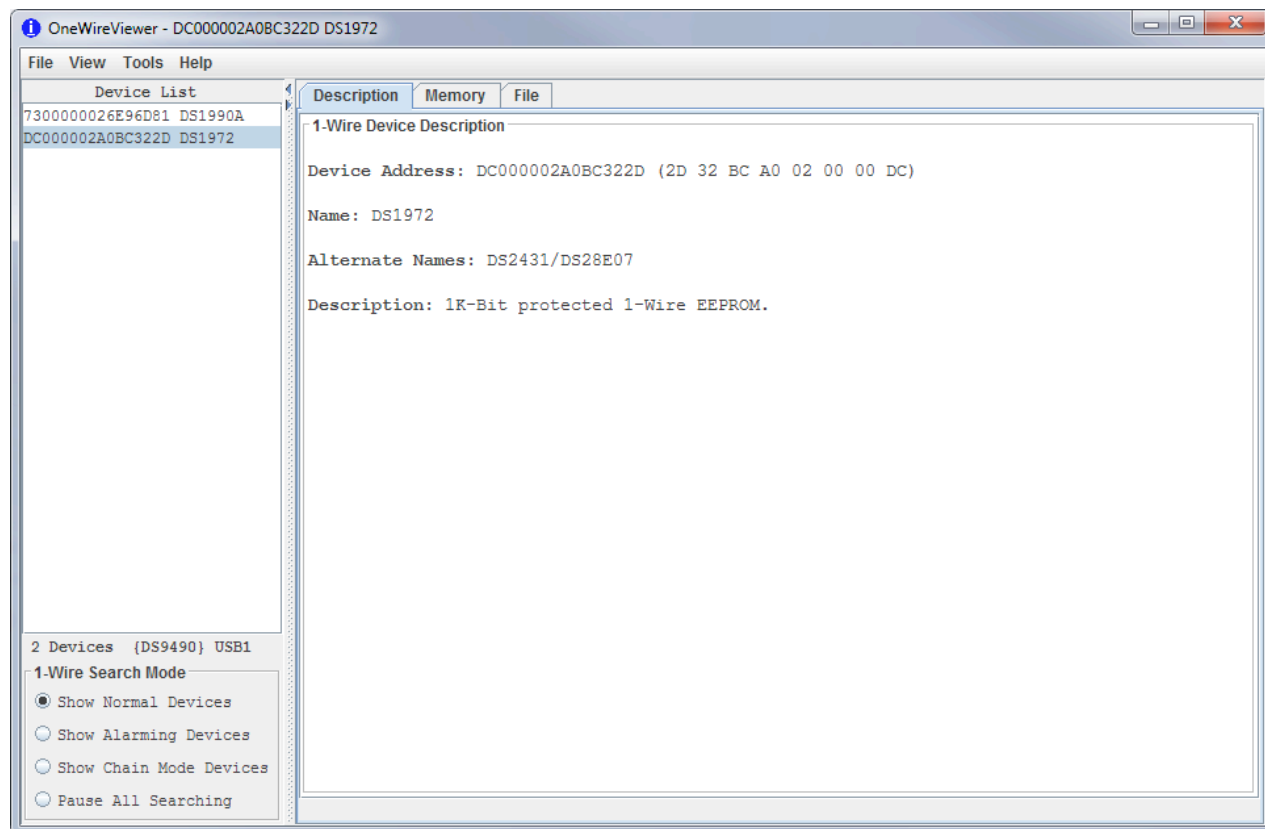

Figure 8. OneWireViewer Screen Example
- 6) When properly installed, the follow GUI should appear as shown in Figure 8.
The **OneWireViewer** presents a **Device List** window located on the left-hand side of the main screen. It displays a list of the different 1-Wire devices found connected to the DS9490R#. The 1-Wire device type inserted into the socket or header of the evaluation board should be shown in the **Device List** window, along with the 64-bit ROM ID lasered into the device. Figure 8 shows the **DS1972** in the Device List window, along with its 64-bit ROM ID value of **DC000002A0BC322D**.